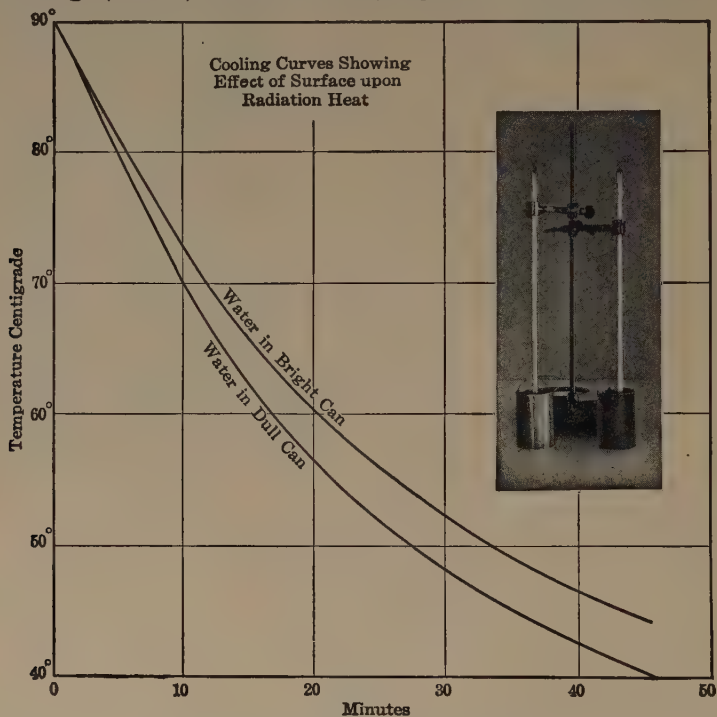

FIG. 73. — Curve showing that the dull black can radiates heat faster than the smooth white can does.
**Radiation.** Why is the bottom of the teakettle dull and rough, and the inside surface dull and rough, while the exposed outside surface is bright and smooth? Let us pour equal quantities of hot water into two metal cans, one of which has a dull, black, rough surface, and the other a bright, white, smooth surface, Fig. 73. The temperature of the
water in the two cans at the start is the same. If we observe the thermometer in each can at ten-minute intervals, it will be seen that the water in the black, rough can is cooling faster than that in the bright, smooth one. This is due to the fact that one is radiating heat faster than the other. A smooth, bright surface helps to retain the heat. A time-temperature curve for each of the cans is shown in Fig. 73. We wish our steam and hot-water radiators to give off heat rapidly and not to retain the heat. For this reason our radiators are dull and rough.